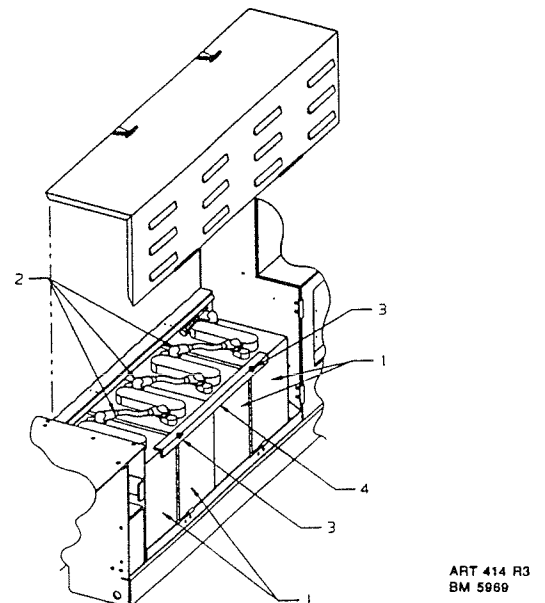

Figure 4-6. Battery Replacement
6. Note and record battery (1, Figure 4-6) positions and battery cable (2) connections by drawing a sketch and/or tagging all items to ensure proper installation of new batteries.
7. Disconnect all battery cables (2).
8. Loosen wing nuts (3) until hold down angle (4) can be pulled away from batteries and pivoted down.
9. Remove old batteries (1).